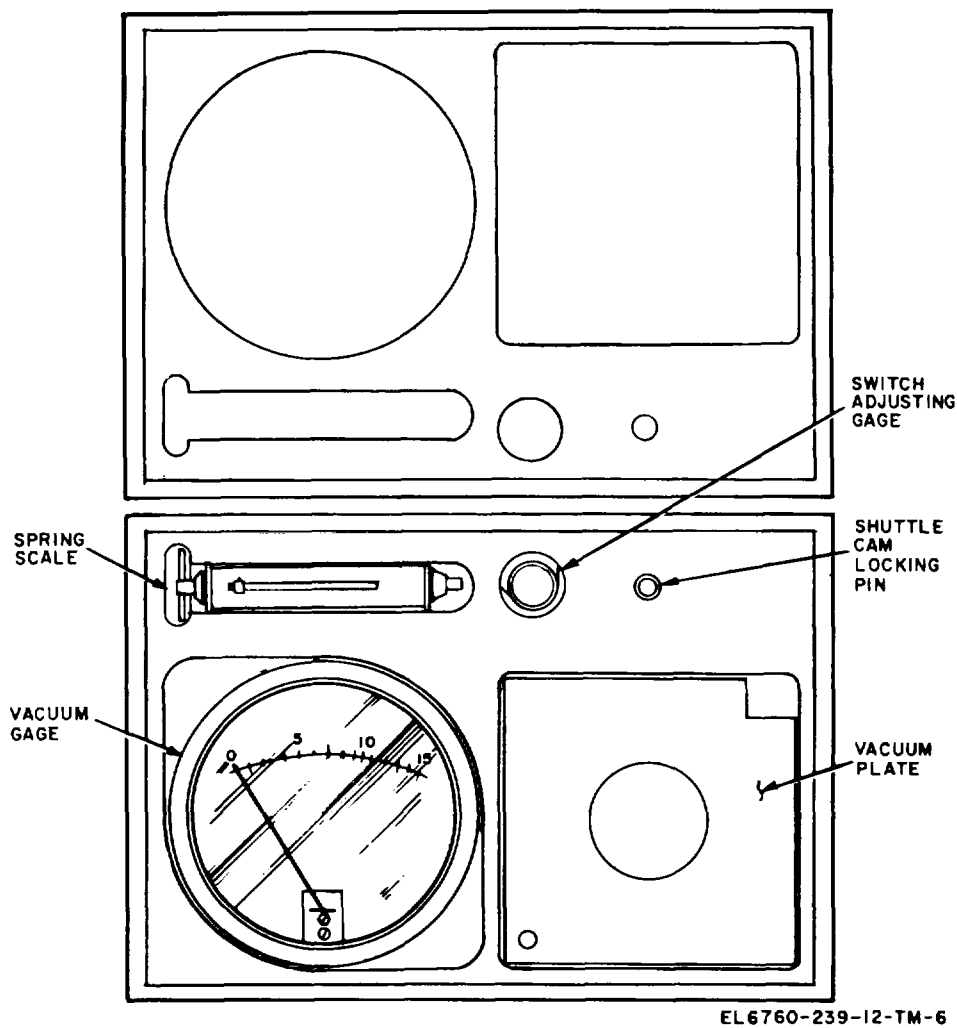

Figure 1-6. Tool storage box.
e. Tool Storage Box (fig. 1-6). The tool storage box consists of a box with a hinged cover that is fastened by two snap latches. The box contains polyfoam cushion material with cavities cut out to store the spring scale ((1) below), the vacuum plate ((2) below), the vacuum gage ((8) below), the shuttle cam locking pin ((4) below), and the switch adjusting gage ((5) below).